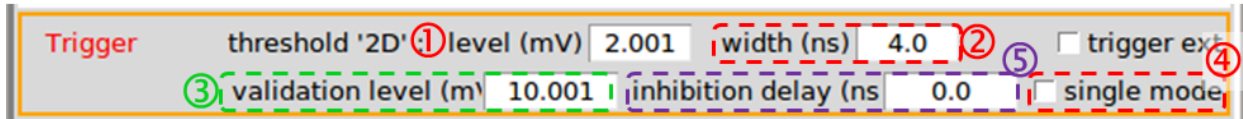
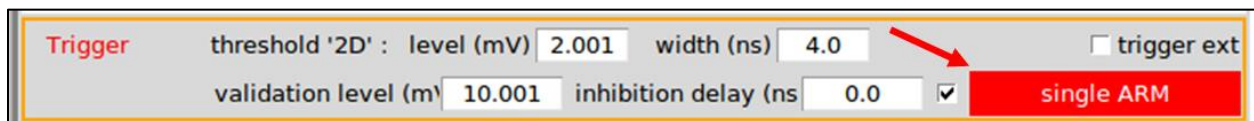

Figure 23: parameters of the threshold discriminator.
Figure 25: “Single Arm” button
All input pulses of the Trigger module, whose signal has crossed the threshold “Level” (Figure 23 ①) on rising edge and remains above this level during at least the duration “width” (Figure 23 ②), are detected. But only pulses with an amplitude over the “validation level” in (Figure 23 ③) during the first 64 nanoseconds are retained.
By checking “Single mode” (Figure 23 ④), the “Single Arm” button appears (Figure 25). A cursor click on this button will trigger a single pulse detection.
Finally, the experimenter can adjust the minimum duration between two detections with the “Inhibition delay” parameter (Figure 23 ④), in order to ensure dead time duration. This duration must be wider than the pulse width, otherwise it has no impact. It is a multiple of 8 ns between 0 ns and 17 s.